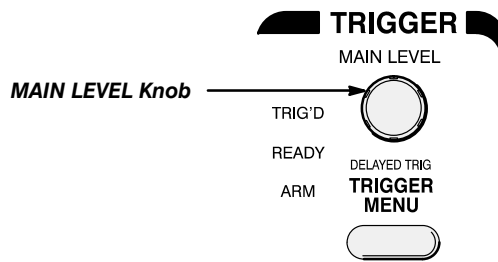

Figure 1-9: TRIGGER Controls
1. To create an unstable display, slowly turn the trigger **MAIN LEVEL** knob (see Figure 1-9) first one direction, then the other. Observe what happens when you move the trigger level above the highest part of the displayed waveform. Leave the trigger level in that untriggered state.